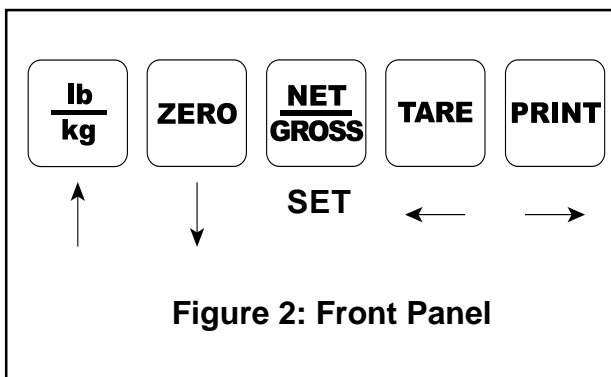

Figure 2: Front Panel
- 3) Apply power to the indicator. The display will show keyword "F 1" which indicates that the unit is in the System Keyword Setup Mode. **Figure 2** shows the functions for each of the front panel keys in this mode.
- 3) The display will momentarily show "CAL 0", followed by a flashing zero. Use the front keypad directional keys, as shown in **Figure 2** on page 4, to change the displayed value to the proper zero calibration value.
- 3) The display will momentarily show "CAL 1", followed by a flashing zero. Use the front keypad directional keys, as shown in **Figure 2** on page 4, to change the displayed value to the proper span calibration value.
- 3) Use the keypad (see **Figure 2** on page 4) to adjust the displayed value to the test weight value. Increase the flashing digit by pressing the **lb/kg** key. Decrease the flashing digit by pressing the **ZERO** key. The position of the flashing digit is changed by either the **PRINT** key or the **TARE** key.